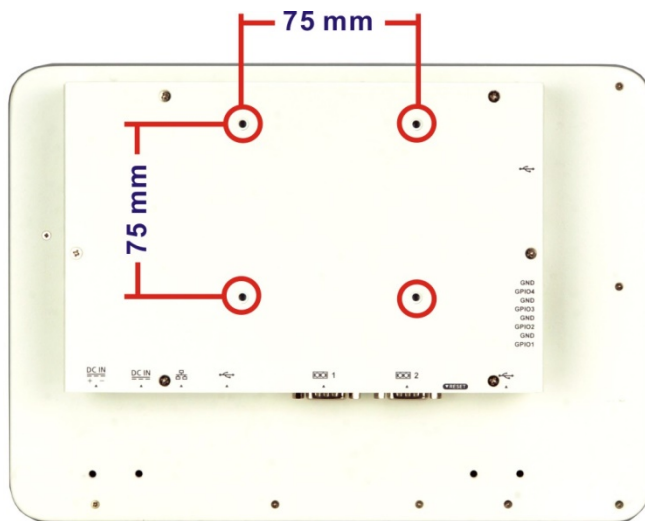

Figure 3-9: Arm Mounting Retention Screw Holes
- Step 3:** Align the retention screw holes on the mounting arm interface with those in the IOVU-210AD-RK39, as shown in **Figure 3-9**.
- Step 1:** Line up the threaded holes on the system rear panel (**Figure 3-9**) with the screw holes on the monitor stand mounting plate.